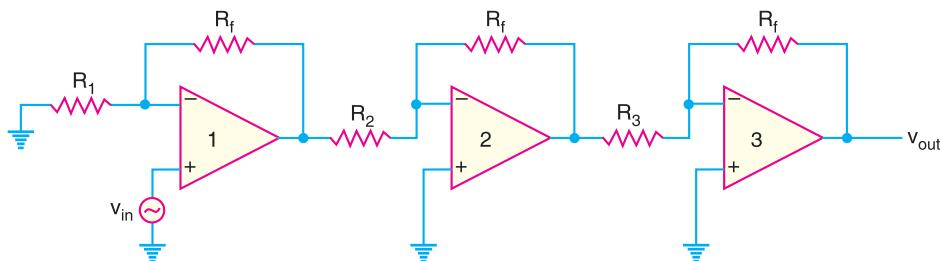

Fig. 25.63
When a number of OP-amp stages are connected in series, the overall voltage gain is equal to the product of individual stage gains. Fig. 25.63 shows connection of three stages. The first stage is connected to provide noninverting gain. The next two stages provide inverting gains.
**Example 25.38.** Fig. 25.63 shows the multi-stage OP-amp circuit. The resistor values are :  $R_f = 470 \text{ k}\Omega$  ;  $R_1 = 4.3 \text{ k}\Omega$  ;  $R_2 = 33 \text{ k}\Omega$  and  $R_3 = 33 \text{ k}\Omega$ . Find the output voltage for an input of  $80 \mu\text{V}$ .